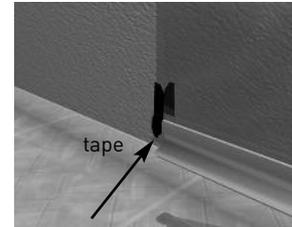

Figure a14
14. Using a low adhesive tape secure the Bottom Seal Extrusion (D) onto the glass and leave for a minimum of two hours. The tape should be placed at both ends and in the centre of the Bottom Seal Extrusion (**Figure a14**). This is to ensure the Bottom Seal Extrusion does not move until the sealant has cured.